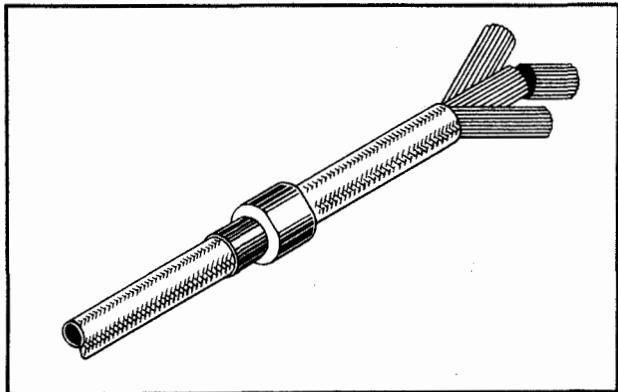

Figure 60
(3) Fan braid out, cut off insulation and center conductor $\frac{1}{2}$. (Purpose of this is to leave sharp end.) See Figure 60.